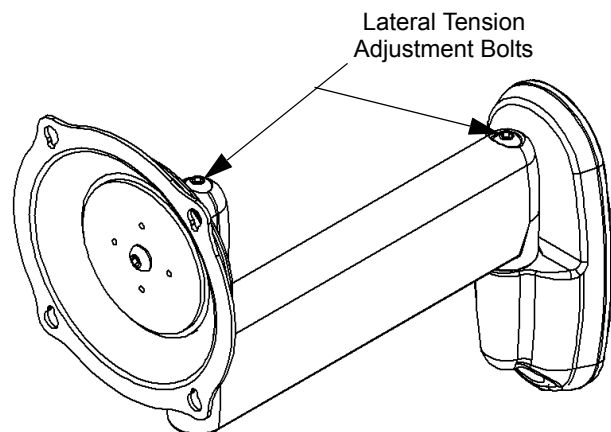

Figure 12: Lateral Tension Adjustment
1. Using a 3/16" hex wrench (170), slightly tighten or loosen lateral tension adjustment bolt (see Figure 12).